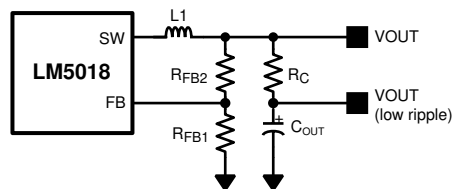

Figure 7-1. Low Ripple Output Configuration
This regulator regulates the output voltage based on ripple voltage at the feedback input, requiring a minimum amount of ESR for the output capacitor (C_{OUT}). A minimum of 25 mV of ripple voltage at the feedback pin (FB) is required for the LM5018. In cases where the capacitor ESR is too small, additional series resistance can be required (R_C in Figure 7-1).
For applications where lower output voltage ripple is required, the output can be taken directly from a low ESR output capacitor, as shown in Figure 7-1. However, R_C slightly degrades the load regulation.